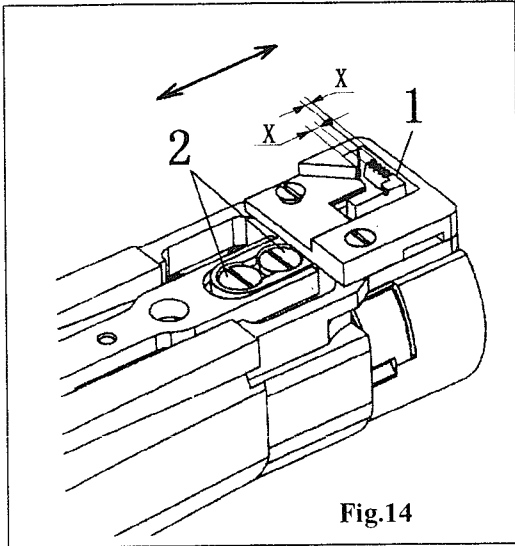

Fig.14
### (1) Positioning the feed dog at an angle to the direction of sewing (Fig.14)